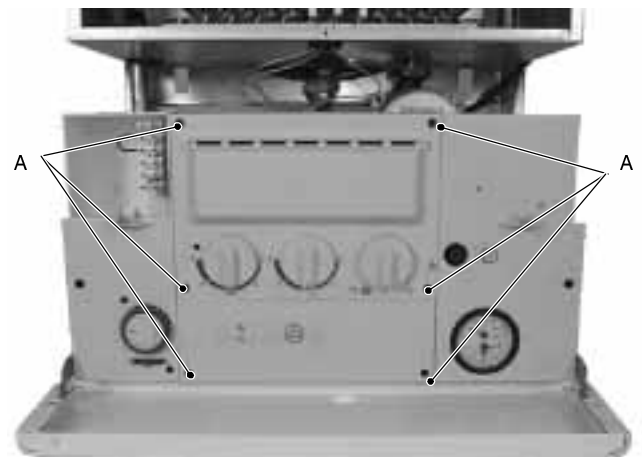

fig. 45
- 2 unscrew the six screws A (fig. 45) and remove both panels;